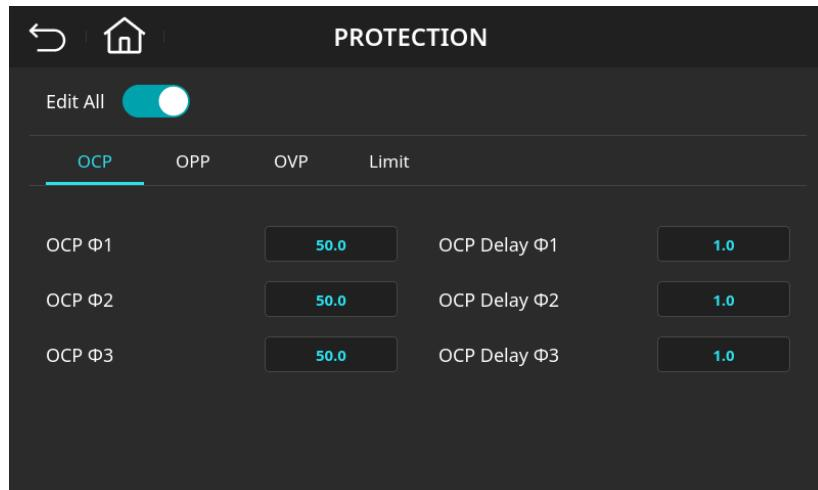

Figure 4-54 Output Overcurrent Protection Page (OCP  $\Phi 1/\Phi 2/\Phi 3 = 50.0$  A, OCP Delay  $\Phi 1/\Phi 2/\Phi 3 = 1.0$  s)
6. Enter **1**, then press **Enter** to change the value to “1.0”, as shown in Figure 4-54.